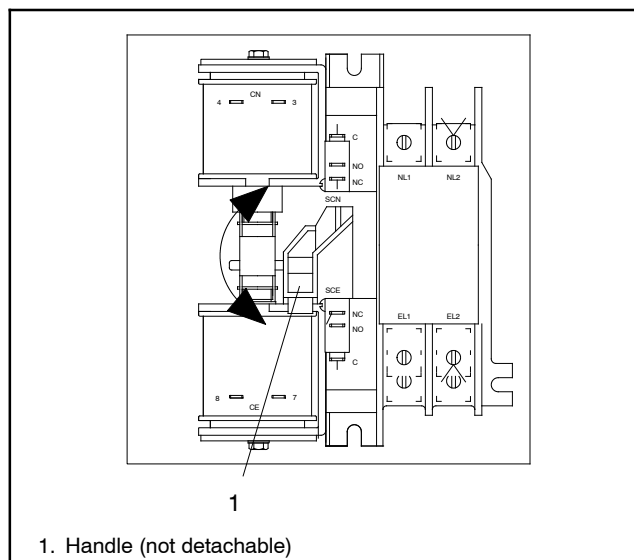
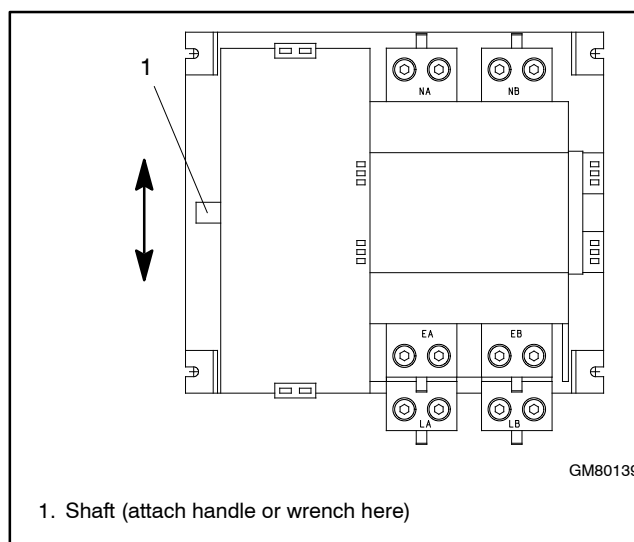

Figure 2-4 Manual Operation, 100 - 200 Amp Single-Phase Switches
Figure 2-5 Manual Operation, 300-400 Amp Single-Phase and 208-240 Volt Switches
- 100-200 amp switches: These switches have an attached handle as shown in Figure 2-4.
400 amp switches: Slide the detachable handle or a wrench over the shaft. See Figure 2-5.
- Move the handle up to place the transfer switch in the Normal Source position or down to place the contactor in the Emergency Source position. See Figure 2-4 or Figure 2-5.